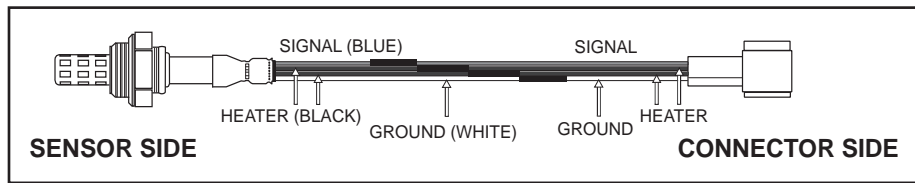

Fig. 3
- Center heat shrink tube over butt connector(s) and apply heat to seal the connection so water cannot enter. (See Fig. 3)